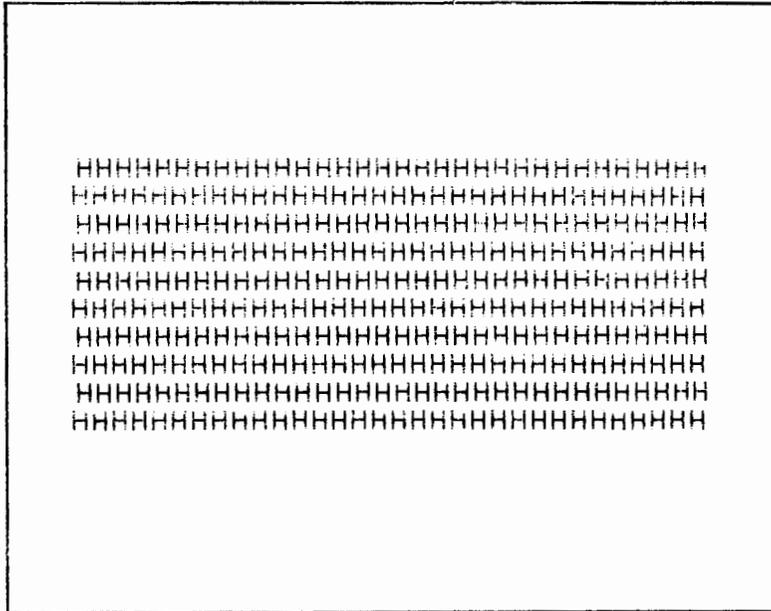

Figure 6-4. Printed Lines Not Correctly Aligned Vertically
**After doing this, check the printout for a vertical misalignment. (See figure 6-4.) If printed lines are not correctly aligned, remove the jumper wire (W37) from the printer PCA if installed, or install one if not.
Note: If any part of the print-head drive mechanism--such as the print-head motor, drive belt, or the setscrew in the coupling--is adjusted or replaced, check the printout for a vertical misalignment after setting the print-head home position. (See figure 6-4.) If printed lines are not now correctly aligned, remove the jumper wire (W37) from the printer PCA if installed, or install one if not. (W37 is located near pins 1 and 40 of the printer controller, U5.)
Note: If adjusting the print-head drive belt does not correct a vertical misalignment between printed lines (see figure 6-4), remove the jumper wire (W37) from the printer PCA if installed, or install one if not. (W37 is located near pins 1 and 40 of the printer controller, U5.)
Note: In step e, the belt will be adjusted until it is too tight; in step f, the belt will be adjusted until it is too loose. In both conditions, there will be an offset between the characters on one line and the characters on the next. (See figure 6-4.) However, if the belt is too loose, it will be visibly slack near the right pulley while the print head is moving from right to left. When the belt is adjusted to the proper tension, the offset from line to line should be no greater than $\frac{2}{3}$ the width of a printed dot.